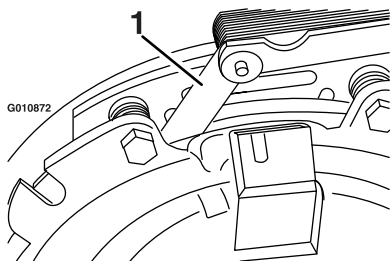
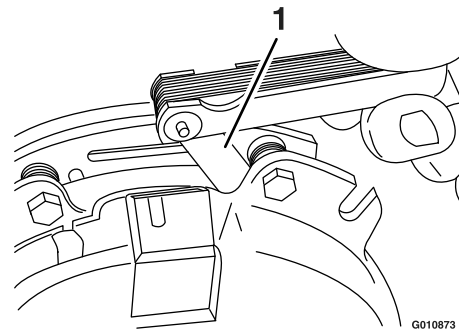

Figure 86
Figure 87
- E. Using a 0.25 mm (0.01 inch) thick feeler gauge, verify that a gap is present between the rotor and the armature face on both sides of the brake pole as shown in Figure 86 and Figure 87.